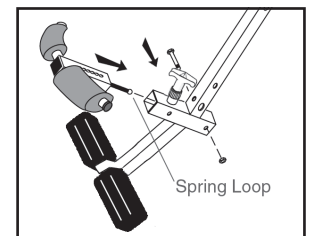

Figure 6
- Follow Step Three through Step One, reversing the installation process to remove the Conversion Bar and re-assemble the rear and front ankle clamp assemblies (Figures 6 & 7).